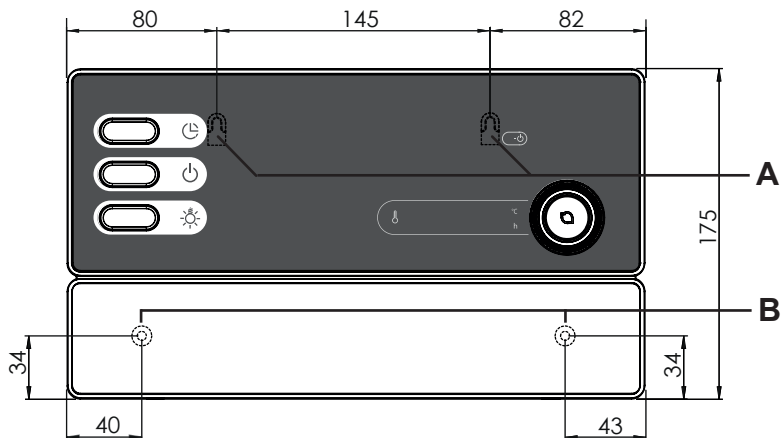

Fig. 1 Position of the attachment device and the installation holes (dimensions in mm)
1. Screw two Phillips-head screws (16 mm) into the wall of the sauna at a height of approx. 1.70 m to a distance of up to 7 mm. The two screws must be placed at a distance of 145 mm from each other (see **Fig. 1**).
3. Fasten the sauna control unit onto the Phillips-head screws using the attachment device **A** as an aid (see **Fig. 1**).
4. Screw two Phillips-head screws (16 mm) into the lower fastening holes **B** (see **Fig. 1**).